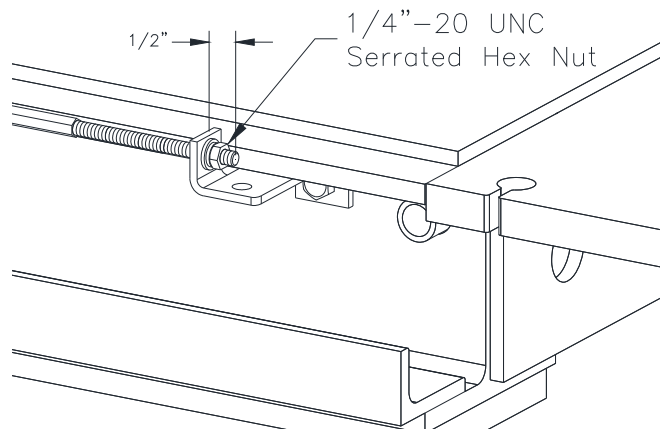

Figure 8
12. Attach threaded end of cable to Cable Bracket as shown in **Fig 8**.